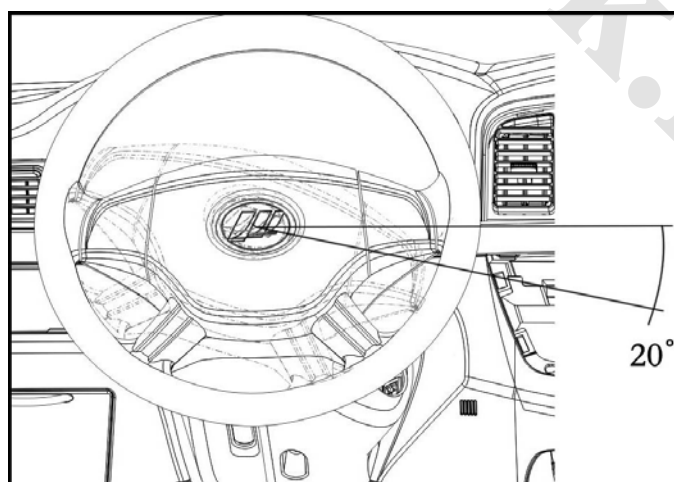

Fig. 2-24
- (1) Make sure that the road wheels are in the straight ahead position.
- (2) Gently turn the steering wheel, and check its free play. As shown in Fig. 2-24, the free play of steering wheel  $\leq 20^\circ$ .